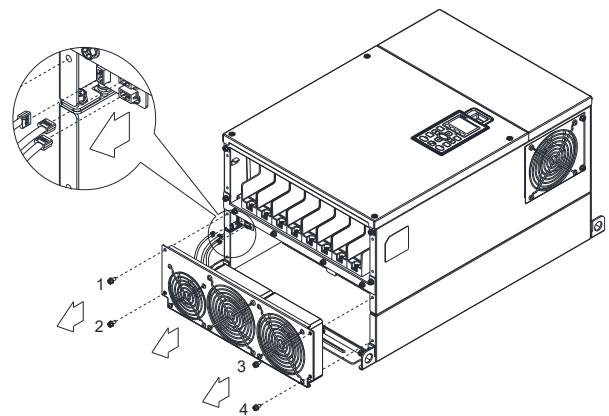

Figure 2
1. Loosen screw 1–4 (figure 2) and disconnect fan power and pull out the fan. (As shown in the enlarged picture 2) Screw1–4 Torque: 24–26 kg-cm / [20.8–22.6 lb-in.] / [2.4–2.5 Nm]